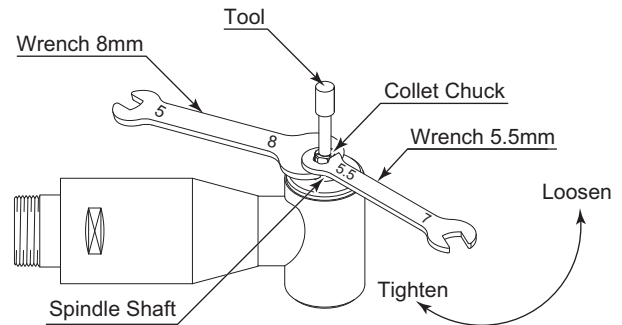

Fig. 3
- ① Remove the tool according to the section "5. CHANGING THE TOOL" procedure above (Fig. 3).